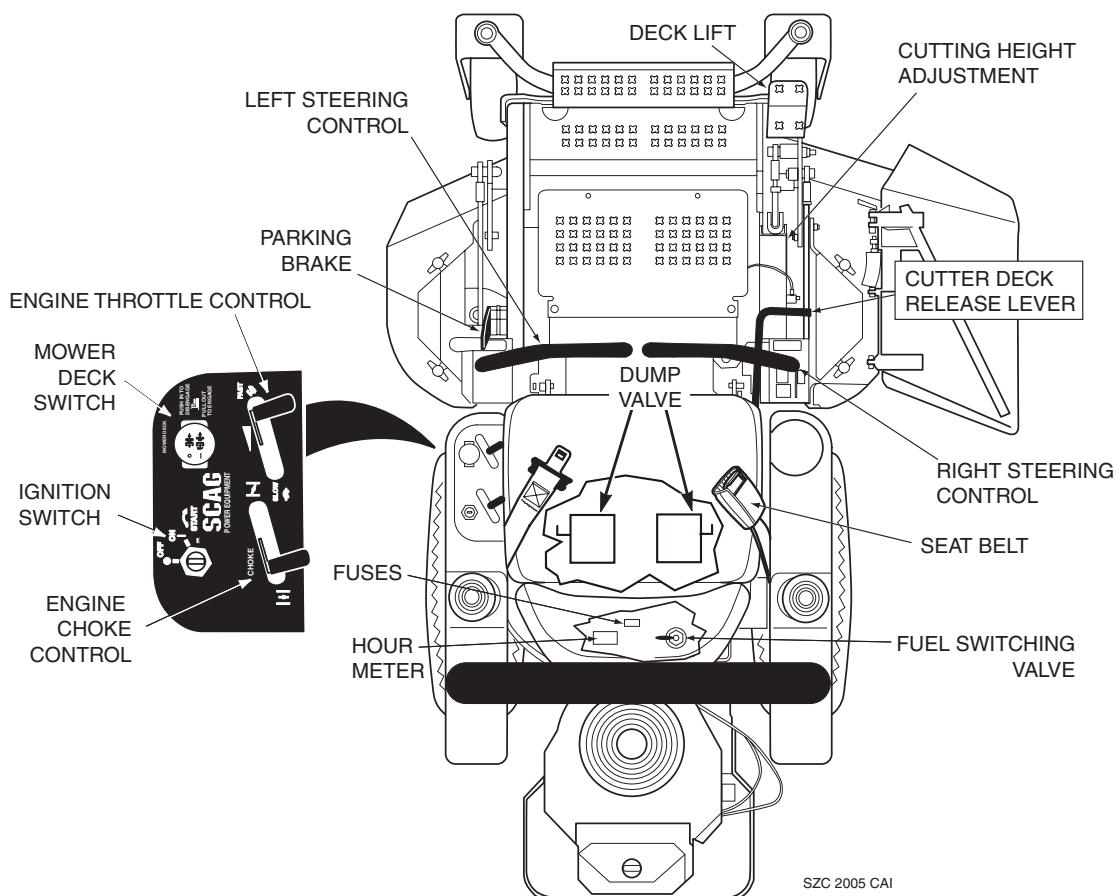

Figure 4-1 Controls and Instruments
1. **Ignition Switch (Figure 4-1).** Used to start the engine and has three positions; OFF, ON, and START.
2. **Mower Deck Switch (Figure 4-1).** Used to engage and disengage the mower drive system. Pulling up on the switch will engage the deck drive. Pushing down on the switch will disengage the deck drive.
3. **Engine Choke Control (Figure 4-1).** Used to start a cold engine.
4. **Engine Throttle Control (Figure 4-1).** Used to control the engine speed. Pushing the lever forward increases engine speed. Pulling the lever back decreases engine speed. Full backward position is the IDLE position. Full forward is the cutting position.
5. **Hourmeter (Figure 4-1).** Indicates the number of hours the engine has been operated. It operates whenever the ignition key switch is in the ON position. It can be used to keep track of maintenance intervals and the amount of time required to perform various tasks.
6. **Fuse Holders (Figure 4-1).** Two 20-amp fuses protect the mower's electrical system. To replace fuses, pull fuse out of the socket and install a new fuse.
7. **Left Steering Control (Figure 4-1).** Used to control the mower's left wheel when traveling forward or reverse.
8. **Right Steering Control (Figure 4-1).** Used to control the mower's right wheel when traveling forward or reverse.
9. **Parking Brake Control (Figure 4-1).** Used to engage and disengage the parking brakes. Pull the lever back to engage the parking brakes. Push the lever forward to disengage the parking brakes.
10. **Fuel Switching Valve (Figure 4-1).** Located on the left side of the machine. Used to shut off fuel supply to the engine and change fuel supply between the fuel tanks. Rotate the valve counter clockwise to supply fuel from the tank on the left side only. Rotate the valve clockwise to supply fuel from the tank on the right side only.
12. **Deck Lift Foot Lever (Figure 4-1).** Used to raise and lower the cutter deck.
13. **Cutting Height Adjustment (Figure 4-1).** Used to set the cutter deck at the desired cutting height.
14. **Cutter Deck Release Lever (Figure 4-1).** Used to lock the cutter deck in the transport position. Push the foot pedal forward and lift up on the release lever to release the cutter deck for normal mowing.
15. **Seat Belt (Figure 4-1).** Used to secure the operator. Seat belt must be worn at all times during operation.